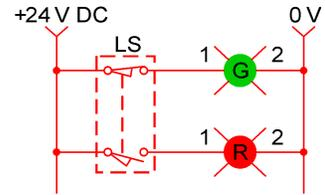

Figure 31. Circuit using the Limit Switch.
3. Referring to the ladder diagram shown in Figure 31, indicate which pilot light turns off when the Limit Switch is activated.
4. Set up the circuit shown in Figure 31.